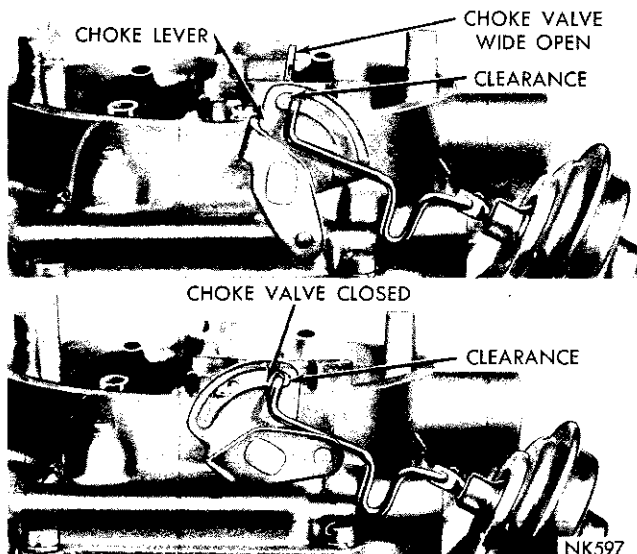

Fig. 16—Choke Operating Link Clearances
(8) With no vacuum applied to the diaphragm, some clearance should exist between the choke operating link and the choke lever slot, in both the open and closed choke valve positions, as shown in (Fig. 16).